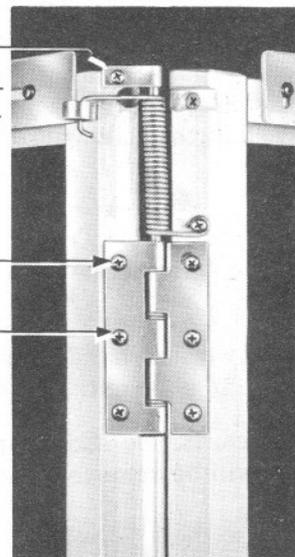

Fig. 3 - Installation of Top Hinge Assembly
- Replace defective springs P (B-179393) only if the top hinge assembly is the latest type having the removable support Q. Replace an earlier type top hinge assembly having a defective spring with a new top hinge O as shown in Fig. 3.